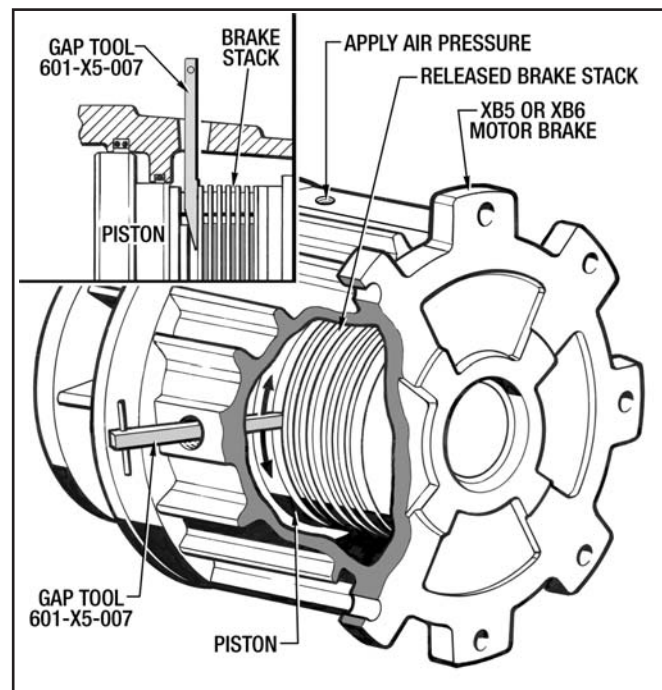

Figure 6.3 - Inserting Gap Tool
5. Firmly insert the Gap Tool through the sight gauge hole in between the Piston and the Brake Stack so that all slack is removed from the Brake Stack as shown in *Figure 6.3*.